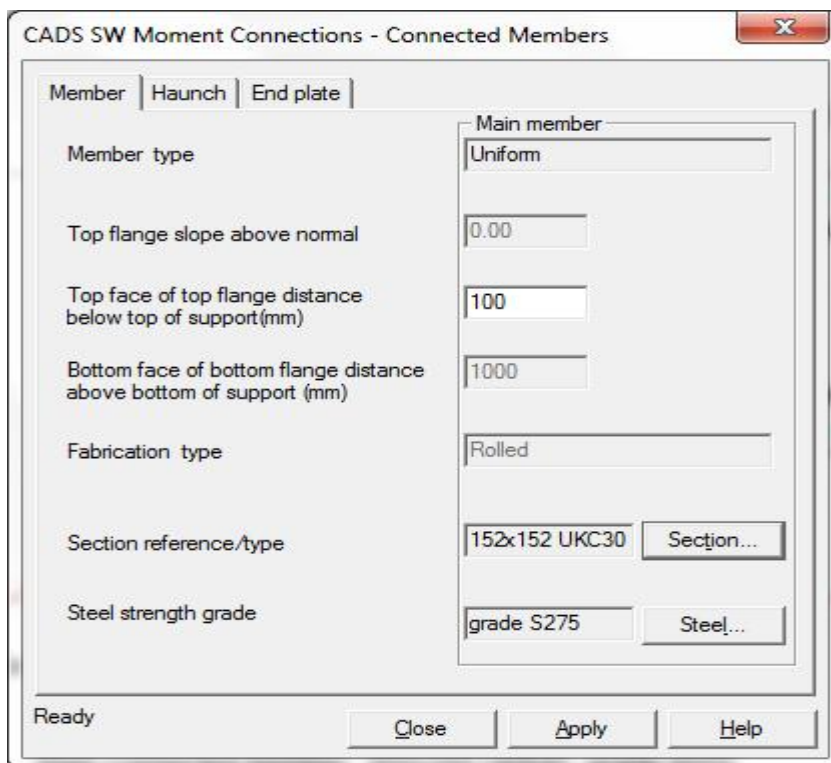

Fig 4.7
- Open the Connected members dialog to change the section to 152x152UKC30 as required for the column acting as quasi-beam. Anticipating the need to extend the column cap plate outside the flange, change the top face distance from 20 to 100 mm as shown in fig 4.7.